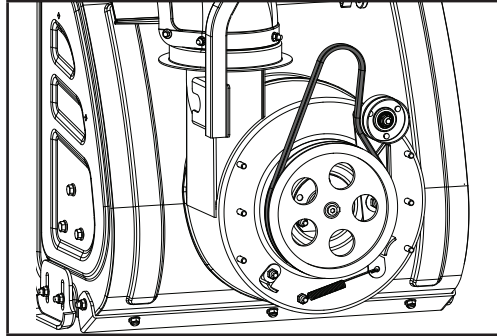

Figure 39
- Slip the drive belt off the pulley. Remove and replace the belt in reverse order ensuring that the new belt is below the spring loaded idler pulley (Fig. 39).